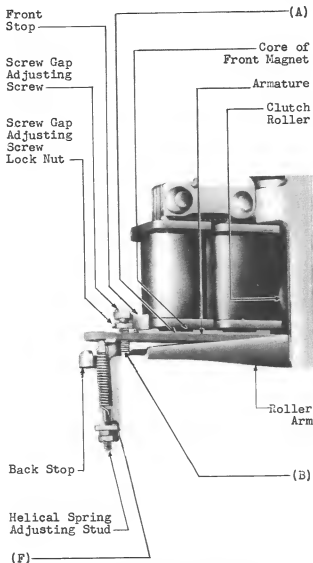

Fig. 9 - Up Drive Armature Fully Operated
2.10 Operated Core Gap - Fig. 9 (A): With the armature fully operated, the gap between the armature and core of the magnet further from the fulcrum measured at a point between the two non-freezing discs on the armature shall be
2.11 Gap Between Screw Gap Adjusting Screw and Roller Arm - Fig. 9 (B):
- 2.14 Position of Helical Spring Adjusting Stud (Turnover Only) - Fig. 9 (F): After all adjustments have been made, there shall be at least one thread showing above the roller arm to provide for further tensioning of the spring. Gauge by eye.